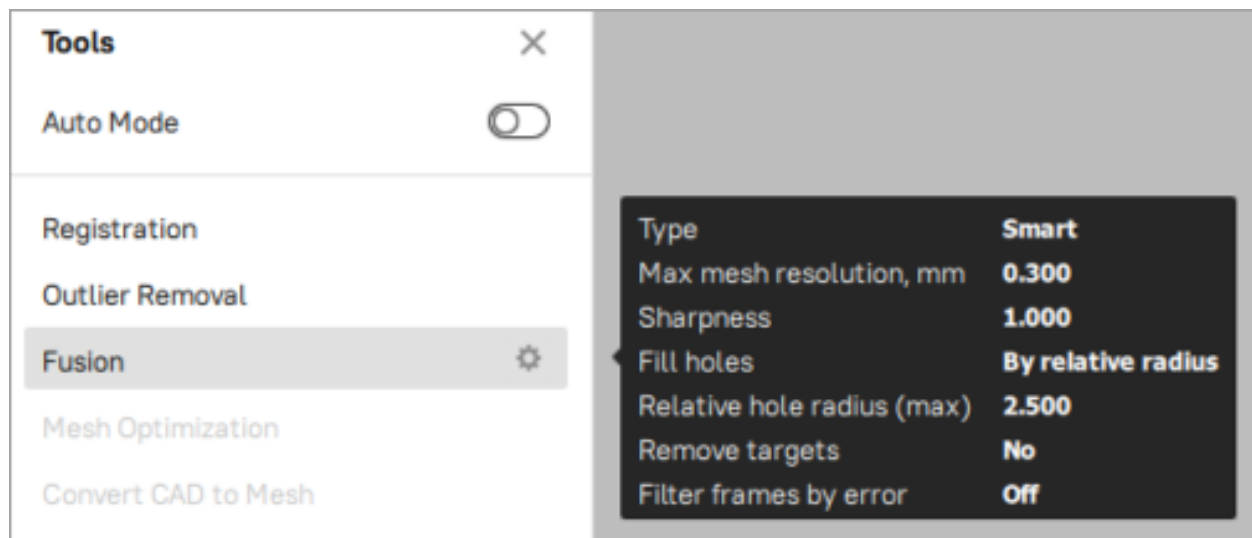

Figure 139: The *Fusion* pop-up with the default parameters.
4. Hover the mouse cursor over the *Fusion* label in order to activate the controls of the tool and the pop-up with the default parameters (see Figure 139).